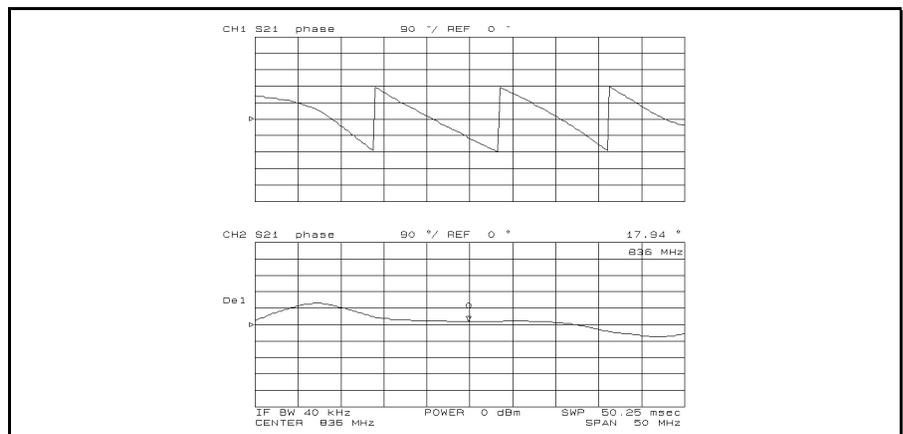

Figure 5-8. Electrical Length Adjustment
4. Press **[Display]** **DUAL CHAN** on **OFF** to **ON** off to display the results before and after the adjustment. The results are shown in Figure 5-8.
You can also determine the electrical length by pressing **[Scale Ref]** **ELEC DELAY MENU ELECTRICAL DELAY**. Then turn the rotary knob until the displayed trace is flat (see Figure 5-8). It may take many revolutions of the knob before the trace is flat.